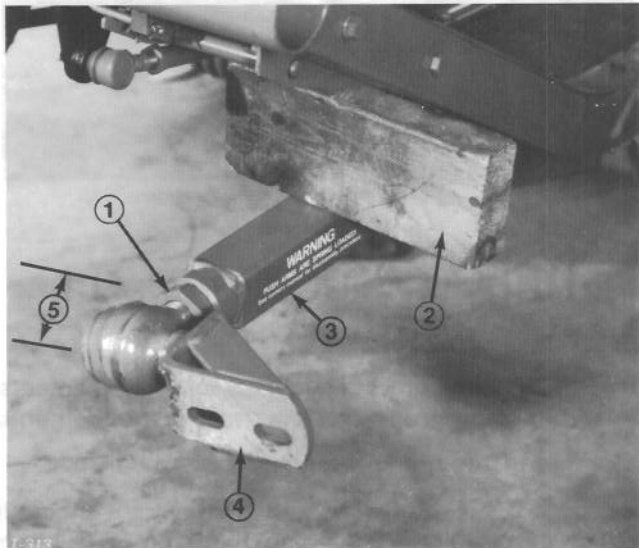
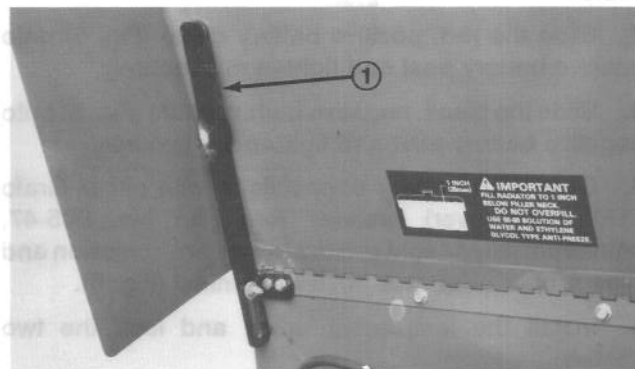

Figure 18
Figure 19
4. Have a helper push down on the left push arm. Then insert a 2 x 4 in. (51 x 102 mm) block of wood between the frame and top of the push arm (Fig. 19). Screw ball joint into left hand push arm until center of ball joint is 2-3/8 inches (60 mm) away from front of push arm (Fig.18). Do not tighten jam nut.